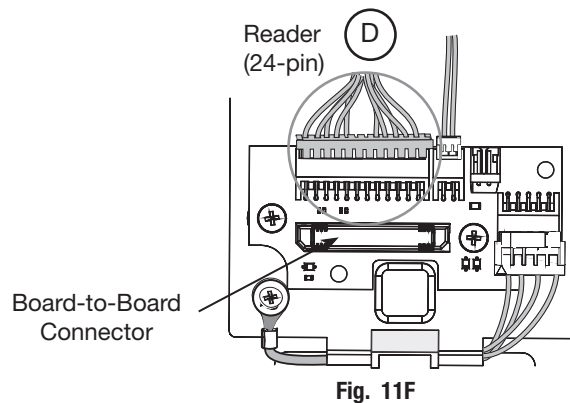

Fig. 11F
- E. Secure the 24-pin card reader connector (Fig. 11F).